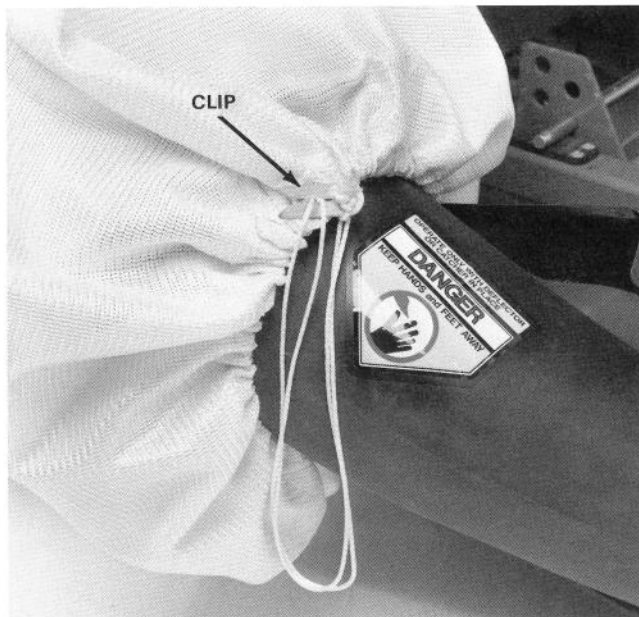

Figure 11
3. Place open end of bag over chute flange (Fig.11). Draw up on string and secure with clip.